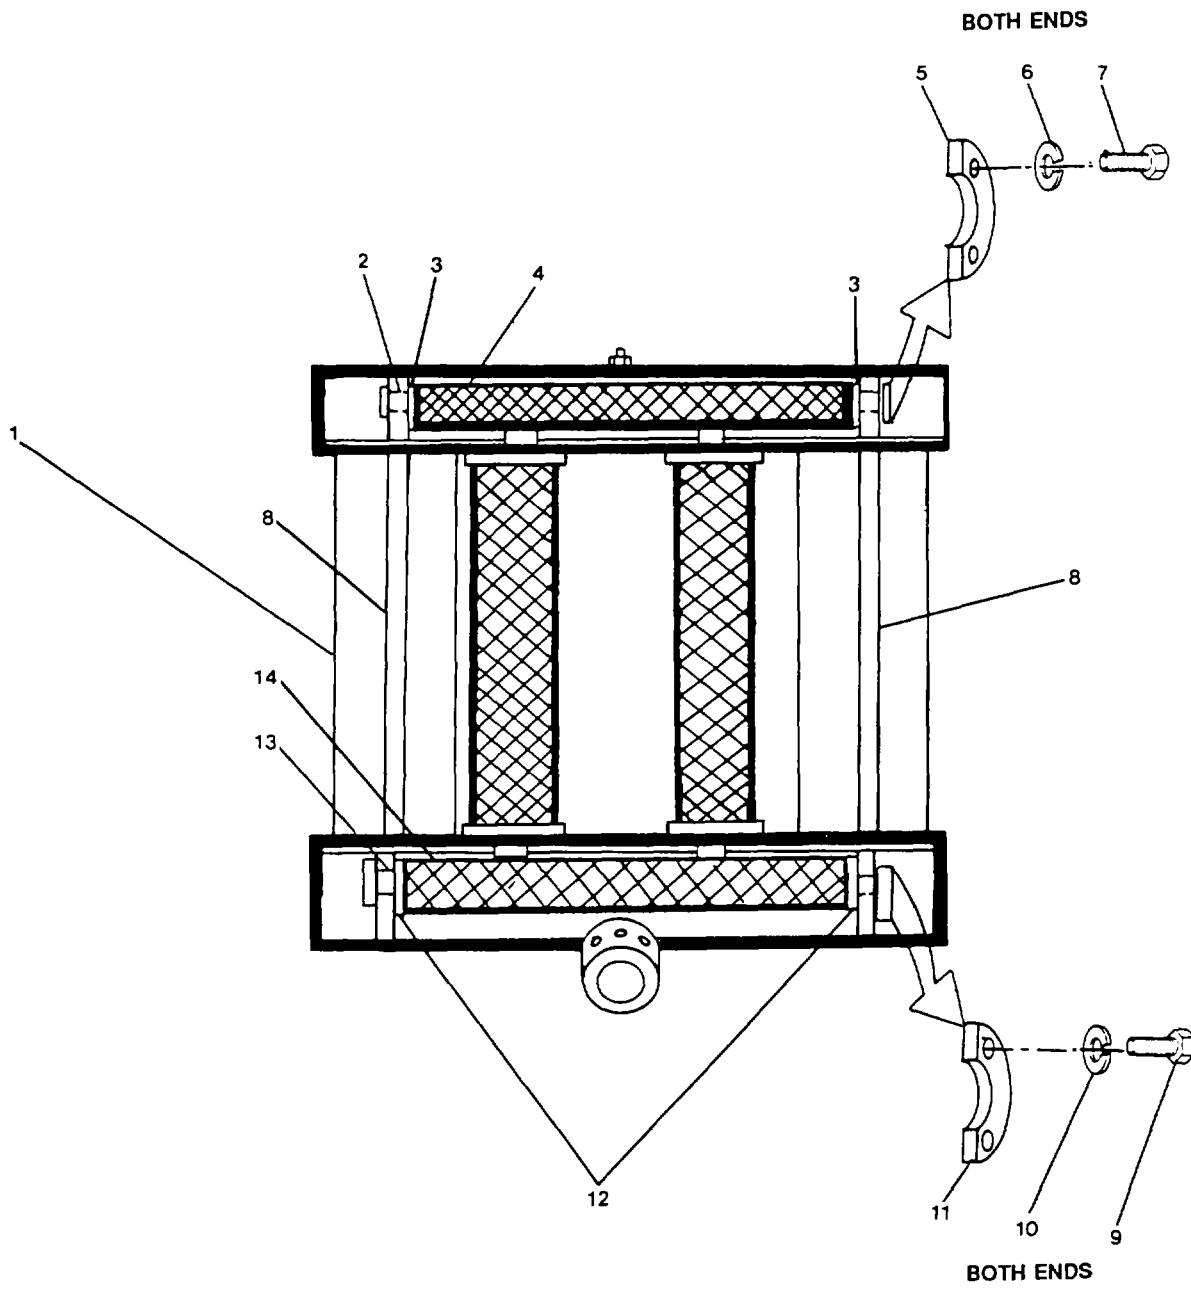

FIGURE 4-10. Levelwind Horizontal Rollers.
- (1) Make sure that lifting device and sling (1) support weight of levelwind carriage (2).
- (2) Remove four recessed hexagon head capscrews (7), hexagon plain nuts (9), and lockwashers (8) securing levelwind side frame (10) to base of winch platform.
- (3) Disengage levelwind side frame (10) from diamond shaft (11) as levelwind side frame is separated from base of winch platform.
- (4) Remove levelwind side frame (3) to a secure area.
- (5) Disengage diamond shaft (11) from levelwind side frame (3) as diamond shaft is pulled through lower section of levelwind guide (12).
- (6) Remove diamond shaft to a secure area.
- (7) Remove four recessed hexagon head capscrews (4), hexagon plain nuts (6), and lockwashers (5) securing levelwind side frame (3) to base of winch platform.
- (8) Position levelwind carriage (2) on a clean flat surface for disassembly.
- (9) Remove lifting device and sling.
j. Levelwind Horizontal Rollers. (FIGURE 4-10)
- (1) Position levelwind carriage (1) with levelwind horizontal rollers (4, 14) exposed for disassembly.
- (2) Remove two hexagon head machine bolts (7) and lockwashers (6) securing keeper (5) on end of the upper roller shaft (2).
- (3) Remove keeper (5).
- (4) Support weight of roller (4) as shaft (2) is withdrawn from roller (4) and out of shaft support brackets (8). Be sure to catch washers (3) when withdrawing the shaft.